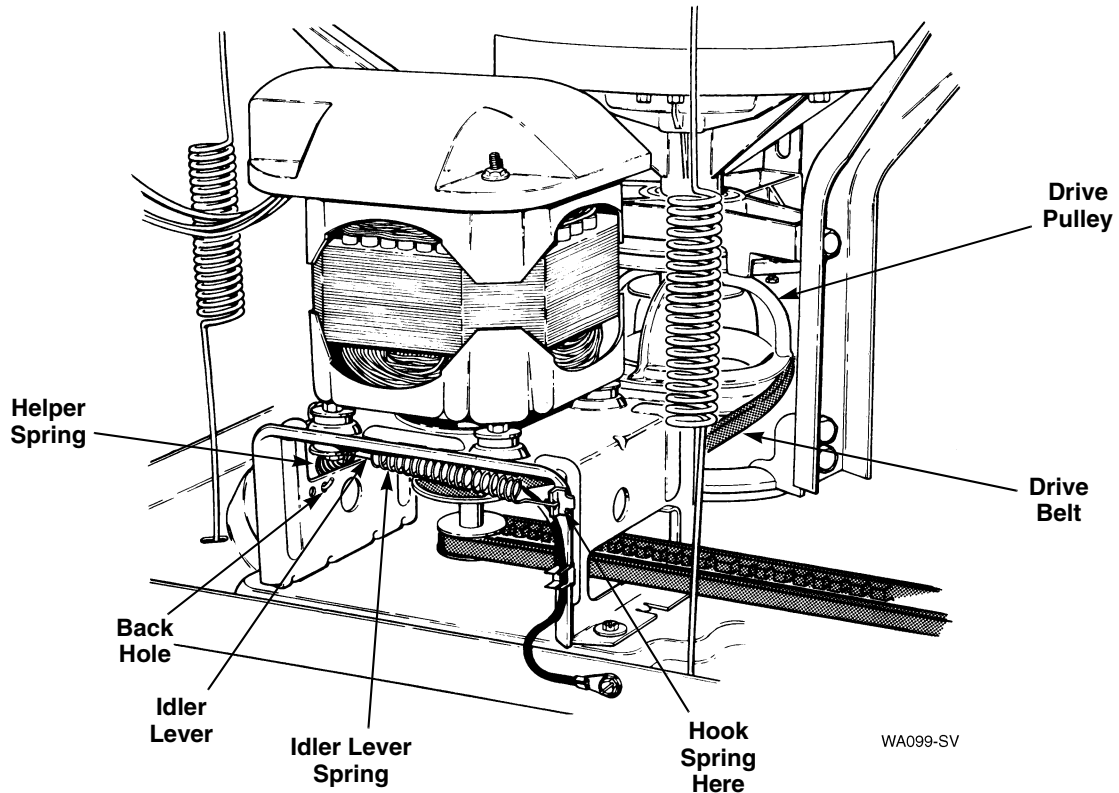

Figure 43
- Reconnect idler spring to clip on motor mounting bracket and helper spring into the back hole in the mounting bracket. Refer to *Figure 43*.